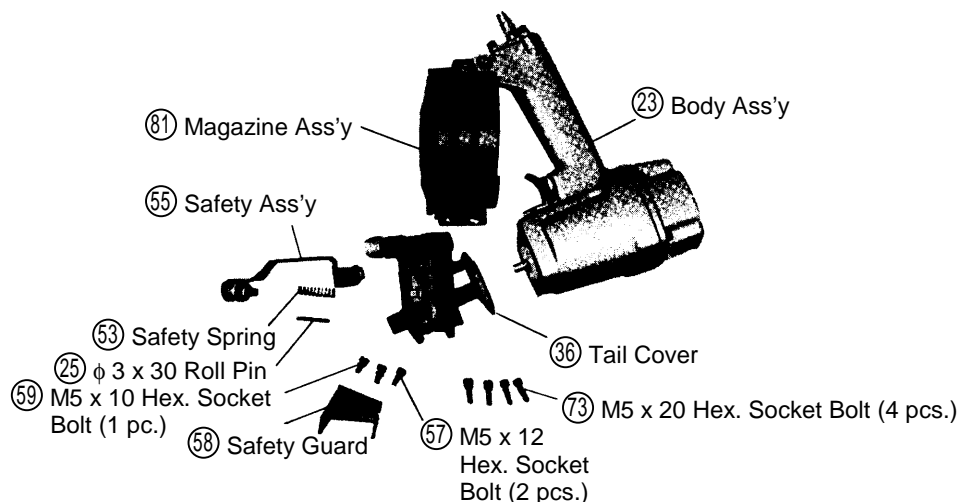

Fig. 19 Tail Cover Disassembly
(1) Disassembly:
- Disassemble the Tail Cover (36) from the Body (23) as described in section 1-1, and remove the Magazine (83) and the Safety Ass'y (48). (see Fig. 19)